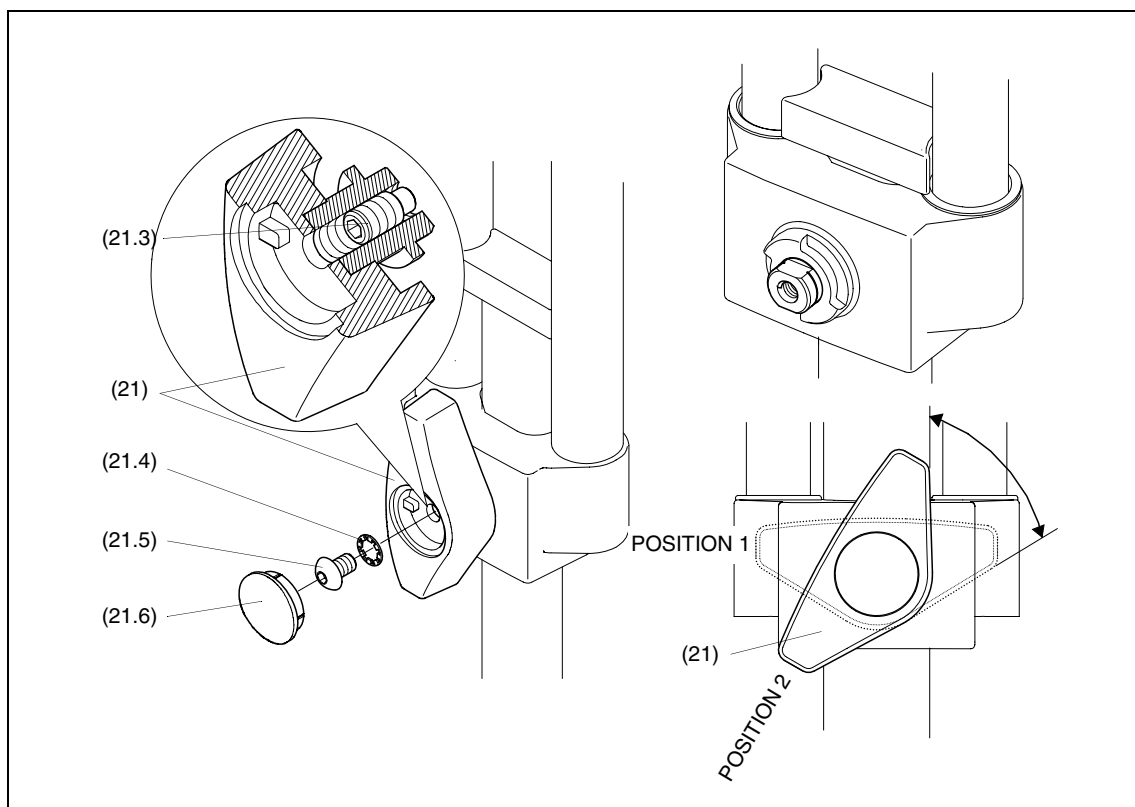

Fig 10 Bottom clamp adjustment
Using a suitable instrument, such as a flat-bladed screwdriver, carefully remove the hole plug (21.6) (Fig 10).
Rotate the clamp knob (21) to 'position 2' shown in (Fig 10), with the edge of the clamp knob (21) vertical. In this position the clamp is NOT fully rotated counterclockwise in the 'off' position.